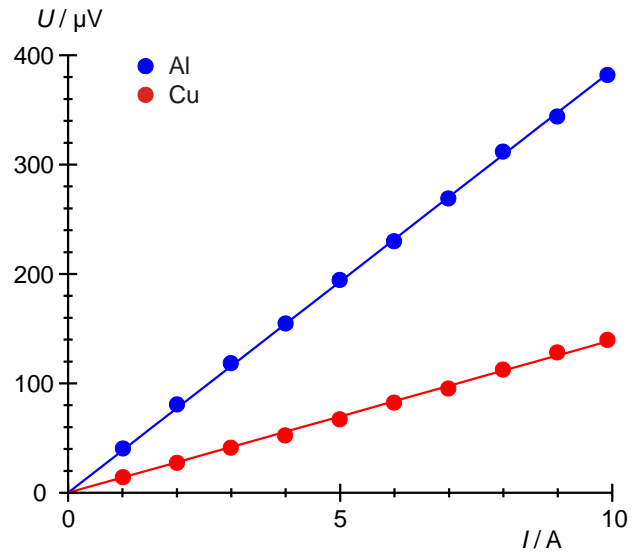

Fig. 4: Plot of  $U$  against  $I$  for copper and aluminium
- Plot the voltages  $U$  (Tab. 2) measured as a function of current  $I$  for the copper and aluminium rods on one graph (Fig. 4) and fit a straight line through the origin to each set of points.